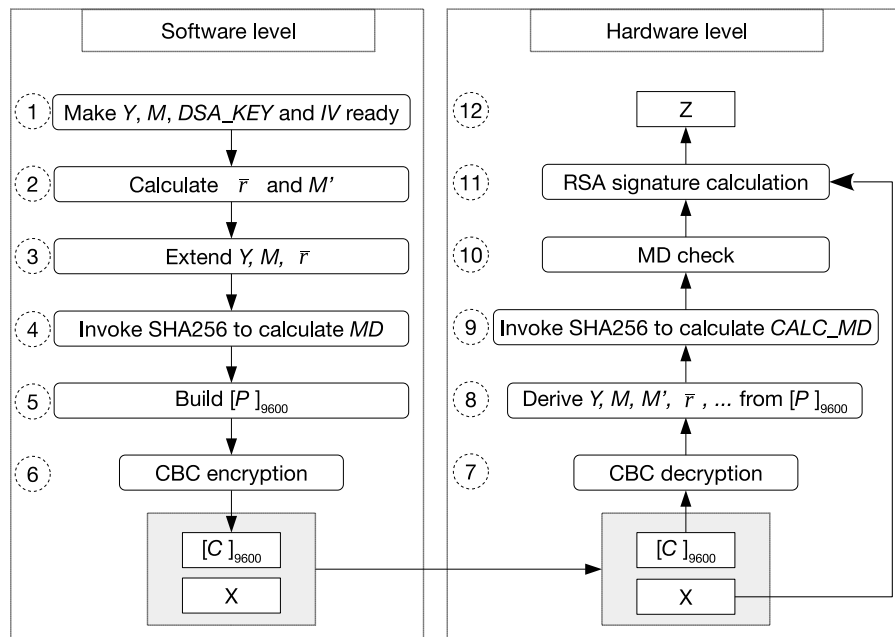

Figure 21.3-1. Software Preparations and Hardware Working Process
If you want to use the DSA module, the software needs a series of preparations, as shown in Figure 21.3-1. The left side lists preparations required by the software before the hardware starts the RSA signature calculation, while the right side lists the hardware workflow during the entire calculation procedure.
1. The software preparation (left side in Figure 21.3-1) is a one-time operation before any signature is calculated, while the hardware calculation (right side in Figure 21.3-1) repeats for every signature calculation.
Users need to follow the steps shown in the left part of Figure 21.3-1 to calculate C . Detailed instructions are as follows:
1. Decryption: Step 7 and 8 in Figure 21.3-1
The decryption process is the inverse of Step 6 in Figure 21.3-1. The DSA module will call the AES accelerator to decrypt C in CBC block mode and get the resulting plaintext. The decryption process can be represented by $P = \text{AES-CBC-DEC}(C, DSA\_KEY, IV)$, where IV (i.e., $[IV]_{128}$) is defined by the user. $[DSA\_KEY]_{256}$ is
2. Check: Step 9 and 10 in Figure 21.3-1
The DSA module will perform two checks: MD check and padding check. The padding check is not shown in Figure 21.3-1, as it happens at the same time as the MD check.
3. Calculation: Step 11 and 12 in Figure 21.3-1